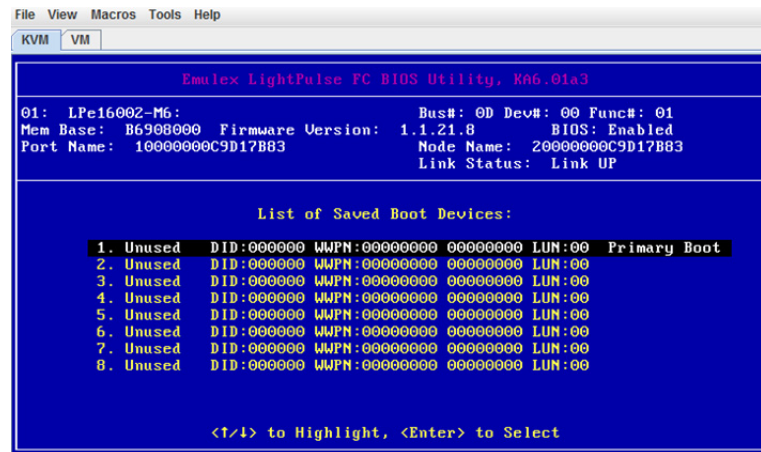

Figure 24 Selecting a LUN as the primary boot
6. Review the list of boot devices and select the required LUN as the primary boot, as shown in Figure 24